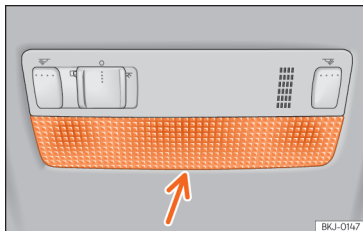

Fig. 61 Front reading light.
- Insert a fine screwdriver between the casing and the glass »» **Fig. 61.**